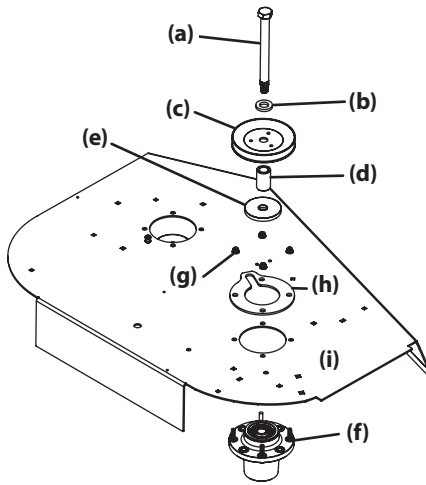

Figure 46
4. Remove the hex bolt (a), washer (b), pulley (c) spacer (d) and fender washer (e) from the spindle assembly (f) (Figure 46).
5. Remove the four flange lock nuts (g) and support plate (h) securing the spindle assemblies (f) to the deck (i) (Figure 46).
7. Reverse STEPS 4-5 to install the spindle assembly. When installing the new spindle assembly be sure to install the hardware exactly as shown in Figure 46. Torque the flange lock nuts to 21-32 ft-lbs (28.47-43.39 N-m).